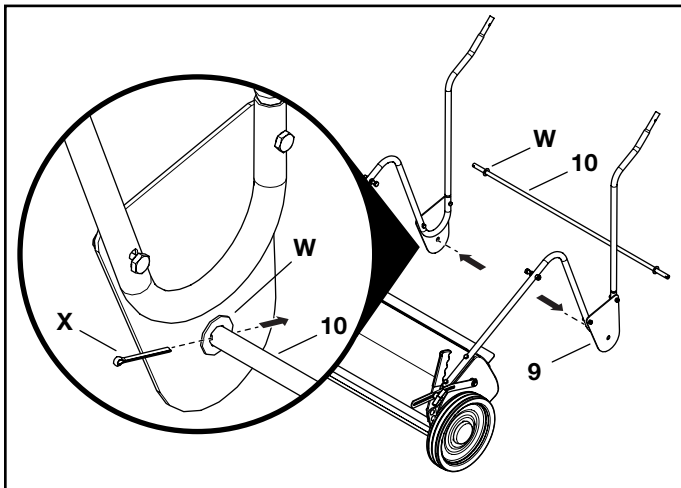

FIGURE 8
STEP 8: (SEE FIGURE 8)
- Place .531 x 1 x .059 washers (W) on each end of the axle (10) and then slide both ends of the axle (10) into the holes of the wheel braces (9).
- Secure in place using a 1/8 x 1-1/2 cotter pin (X). Use pliers to bend the ends of the 1/8 x 1-1/2 cotter pin (X) once inserted into the holes on the axle (10).
(VOIR LA FIGURE8) Placez des rondelles de 0,531 x 1 x 0,059 (W) à chaque extrémité de l'axe (10), puis faites